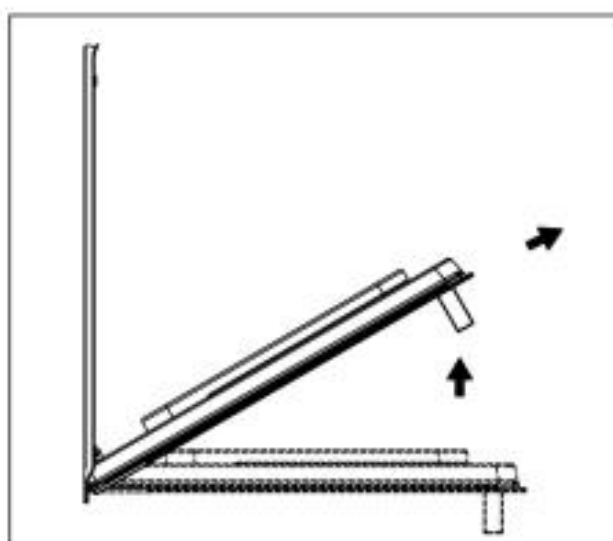

Fig.12
- ❖ Shut the door slightly, you can lift it out by pulling out the hooks “A” to reassemble the door. (Fig.12)